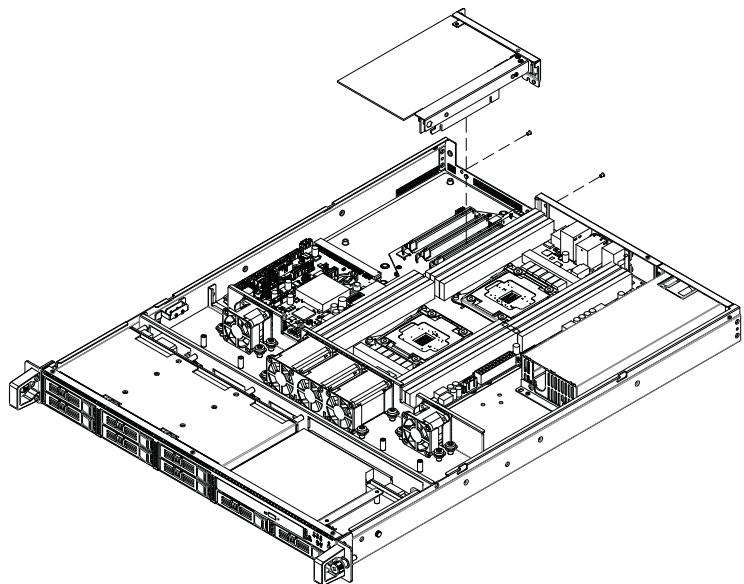

Figure 2.12 Installing PCIe Expansion Card/ 安装 PCIe 扩充卡 / 安裝 PCIe 擴充卡
3. Return the PCIe card with brackets into the original position and fasten it with the screws. See Figure 2.12.